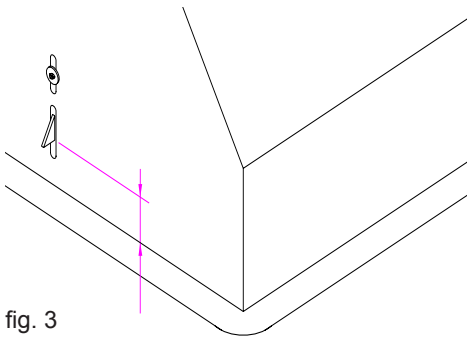

fig. 3
Hold the Sch31A under the cabinet and Screw it to the 4 hole locations. Make sure it lines up with the cut out in your cabinet. The power pack has pressure springs (to be adjusted) on the front and back that will “hook” onto the top surface of the underside of the hood when it is pushed up into the hole that has been cut out (refer to figure 3).
The power pack has pressure springs (to be adjusted) on the front and back that will “hook” onto the top surface of the underside of the hood when it is pushed up into the hole that has been cut out (refer to figure 3).
Before installing the appliance, remove the metal grease filter. It can be removed by pushing its special handle toward the backside of the cooker hood and turning the filter downwards so to unfasten it from its slot (refer to figure 3). The power pack has pressure springs (to be adjusted) on the front and back that will “hook” onto the top surface of the underside of the hood when it is pushed up into the hole that has been cut out (refer to figure 3). There are eight holes on the inside of the SU923 - SUE923 to fit the unit into the edge of the base of the wooden cabinet (refer to figure).
**Installing SU902.** The power pack has pressure springs (to be adjusted) on the front and back that will “hook” onto the top surface of the underside of the hood when it is pushed up into the hole that has been cut out (refer to figure 3).